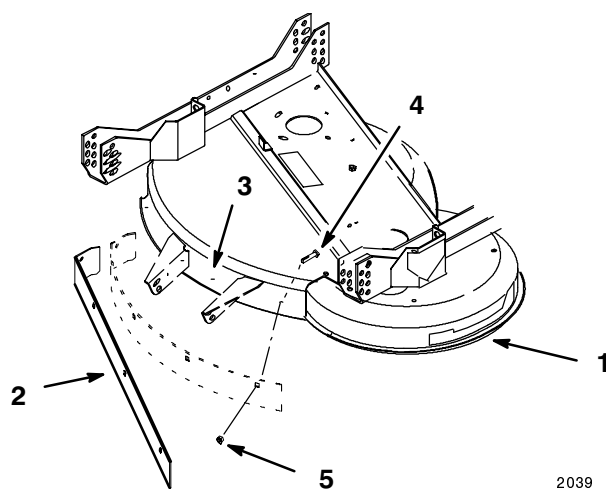

Figure 2
2. Drill a 9 mm hole through the front of the mower next to clamp at center. Secure baffle to mower at center with 5/16-18 x 3/4" (19mm) bolt, through from the inside, and a thin 5/16 lock nut (Fig. 2).
3. Working left and right from the center, drill (4) 9 mm holes in mower. Secure baffle with 5/16-18 x 3/4" (19mm) bolts, through from the inside, and secure with thin 5/16 lock nuts (Fig. 2).